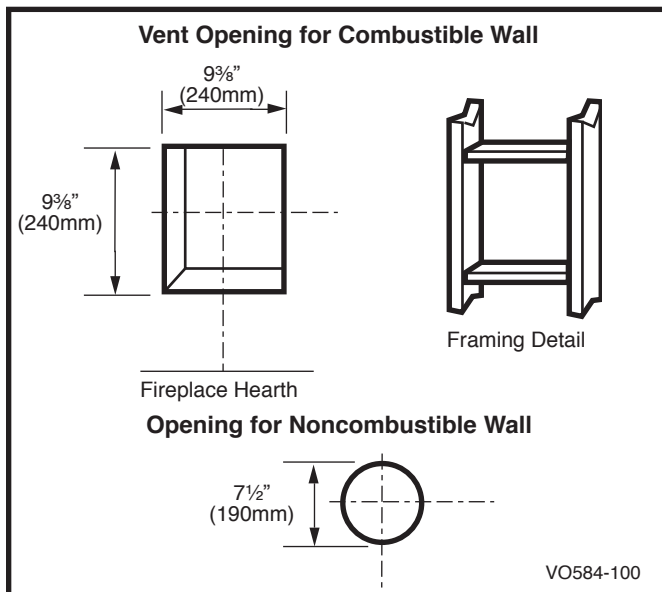

Fig. 25 Locate vent opening on wall.
Locate vent opening on the wall. It may be necessary to first position the fireplace and measure to obtain hole location. Depending on whether the wall is combustible or noncombustible, cut opening to size. (Fig. 25)
**Combustible Walls** (Fig. 25): Cut a 9 $\frac{3}{8}$ "H x 9 $\frac{3}{8}$ " W (240 x 240mm) hole through the exterior wall and frame.
**Noncombustible Walls** (Fig. 25): Hole opening must be 7.5" (190mm) in diameter.
1. Establish vent hole through the wall. (Fig. 25)